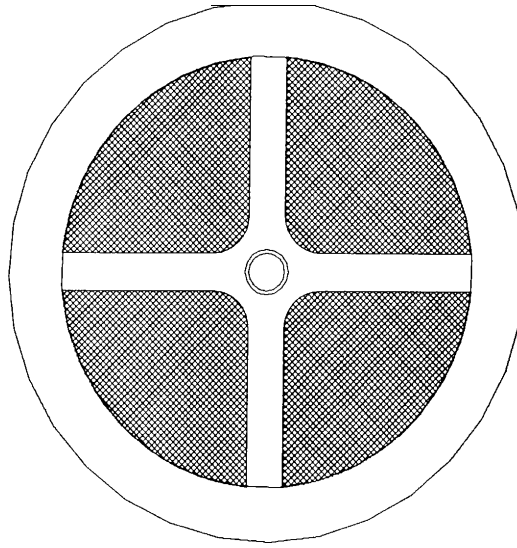

Figure 4. Intake Flame Arrester
3. () Remove the intake Flame arrester. The intake flame arrester is shown in Figure 4. The flame arrester core is clean and has no apparent damage.